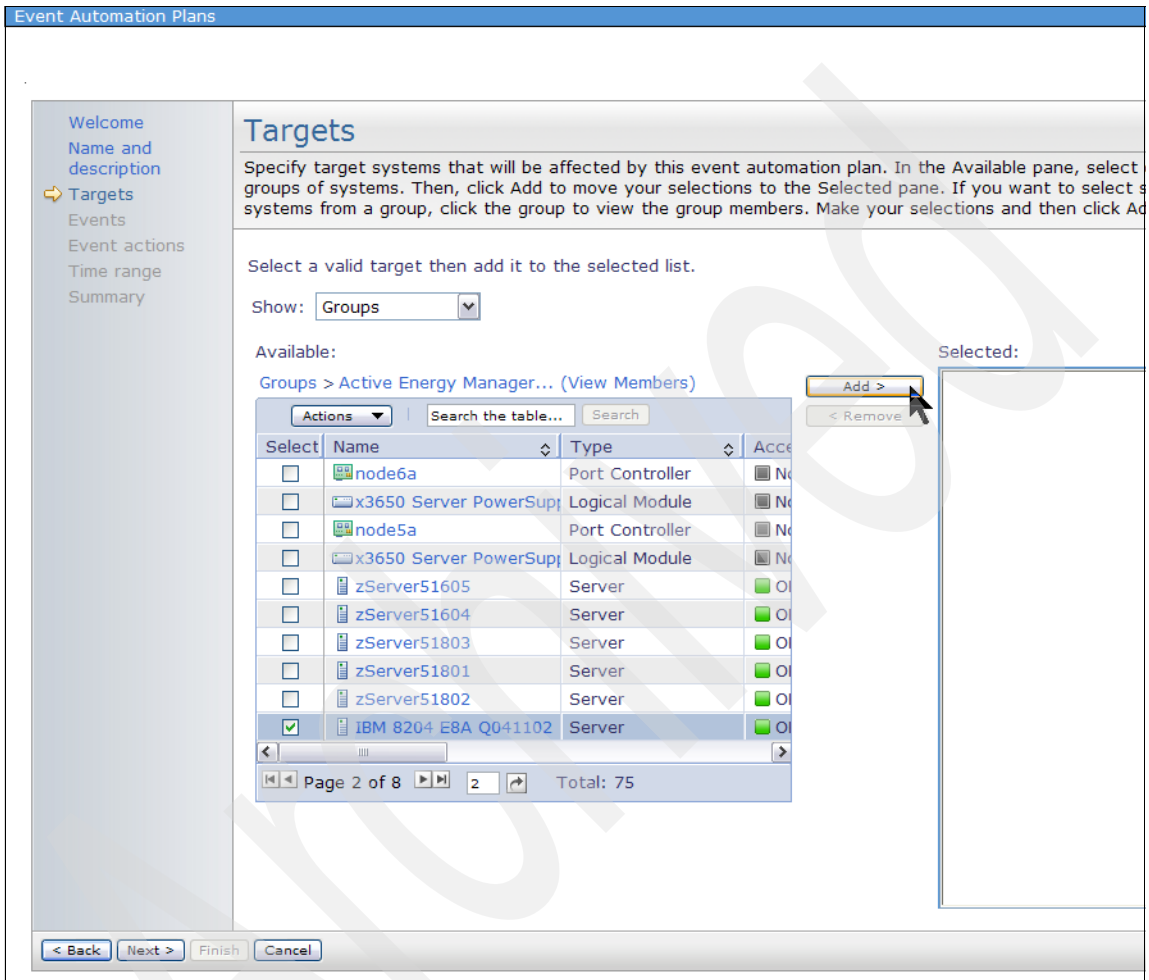

Figure 6-85 Creating an event automation plan - 5
6. A display similar to that shown in Figure 6-85 opens. Select the resource or resources for which you want to create the automation plan, and then click **Add** to move them to the Selected box.